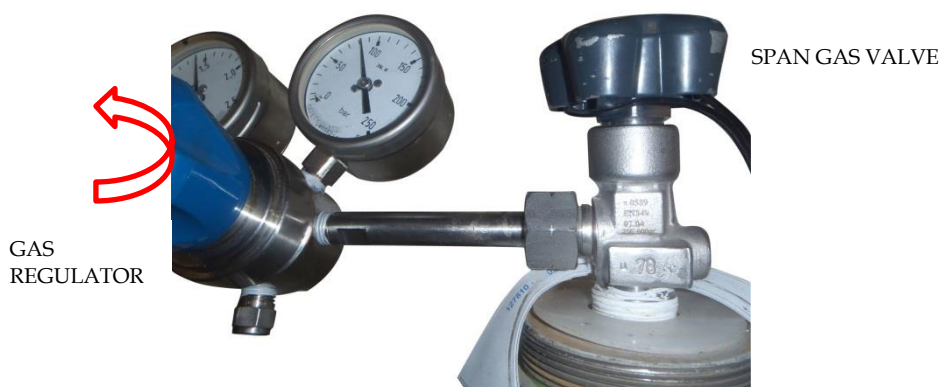

Figure 10 Valve and regulator on span gas cylinder
- 14) Make sure the gas regulator (refer to Figure 10) is fully closed.
- 16) Open span gas valve on the cylinder and carefully open gas regulator (several turns clockwise) until flowmeter, FI-11, under AC (refer to Figure 10) shows 1.0 l/min.